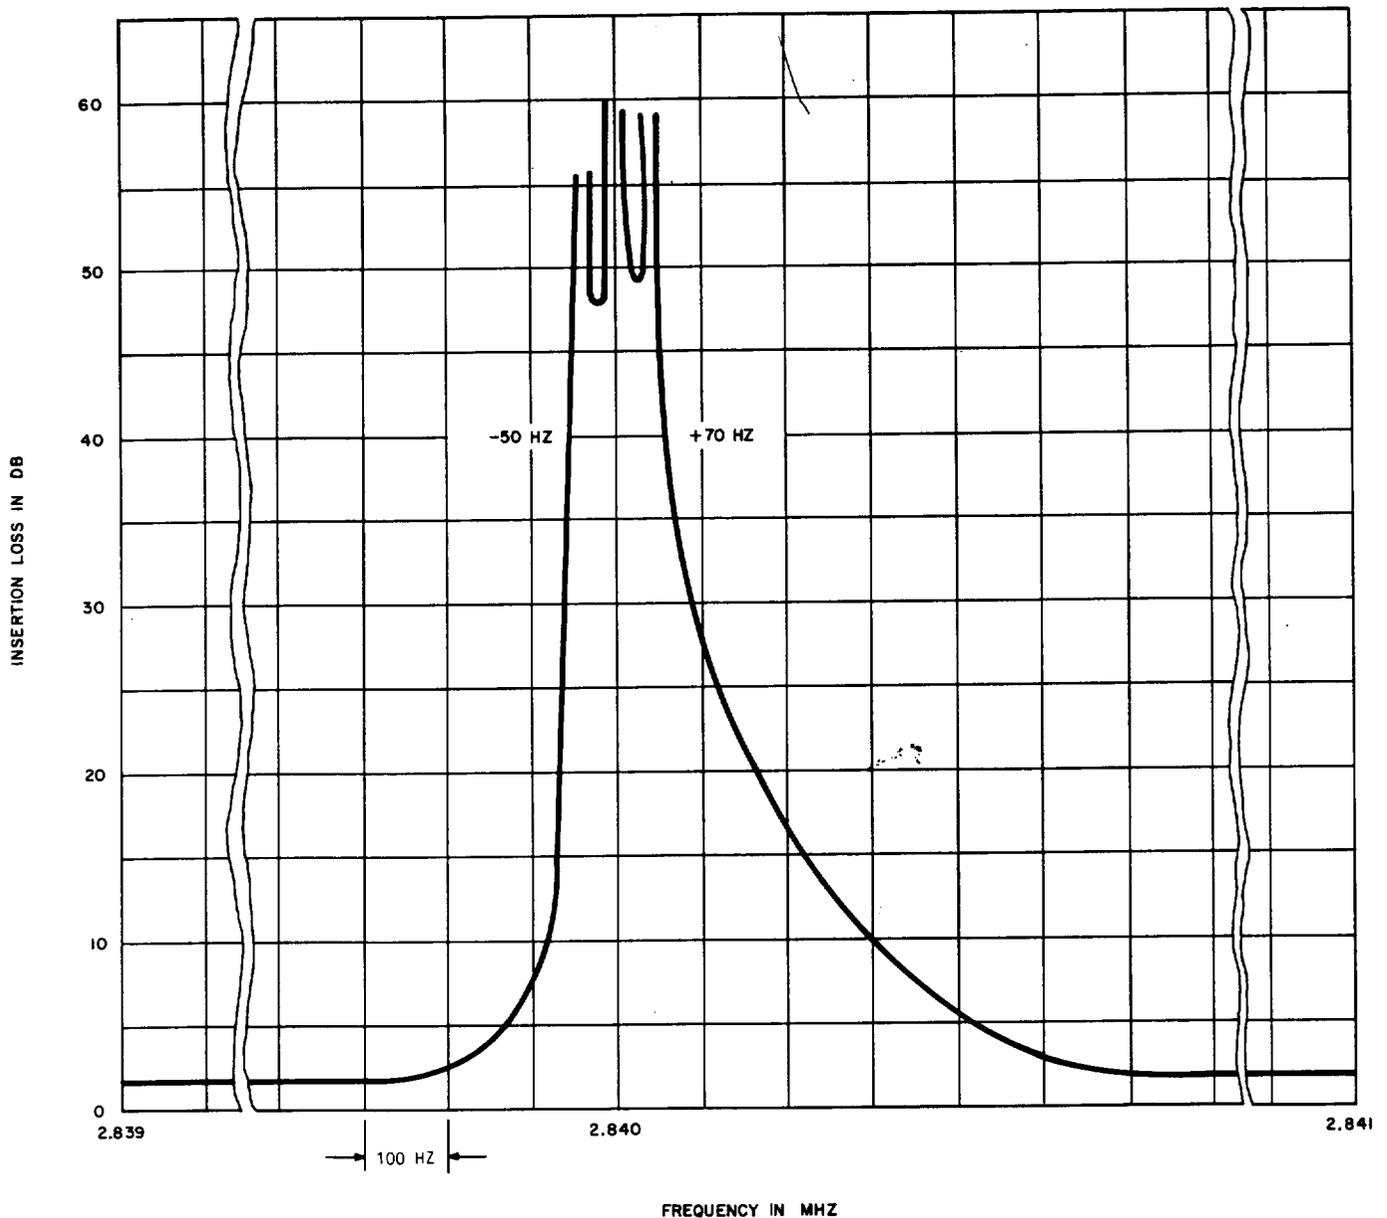

Fig. 4—761A Band-Elimination Filter—Insertion Loss Characteristic
3.05 The 761A band-elimination filter removes the incoming 2.840-MHz mastergroup pilot to prevent interaction with the pilot inserted in the transmitting MMX-2 terminal. A typical insertion loss characteristic for the 761A band-elimination filter is illustrated in Fig. 4. The filter provides